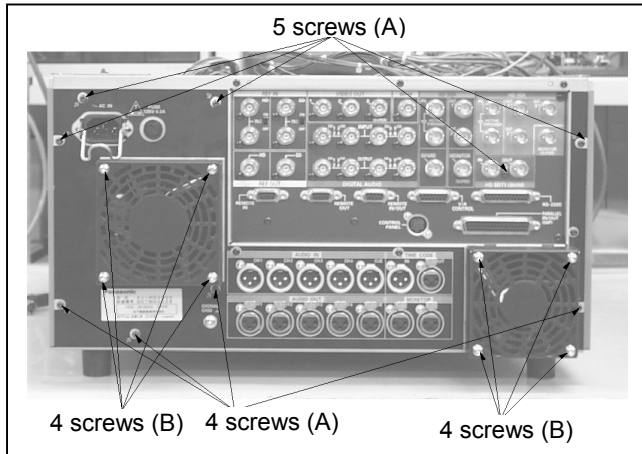

Figure 7-15-1 Rear Panel Removal.
1. Unscrew 9 screws (A) and open Rear Panel as shown in figure 7-15-1.
3. Unscrew 4 screws (B) as shown in figure 7-15-1 and pull fan motor away from the rear panel.